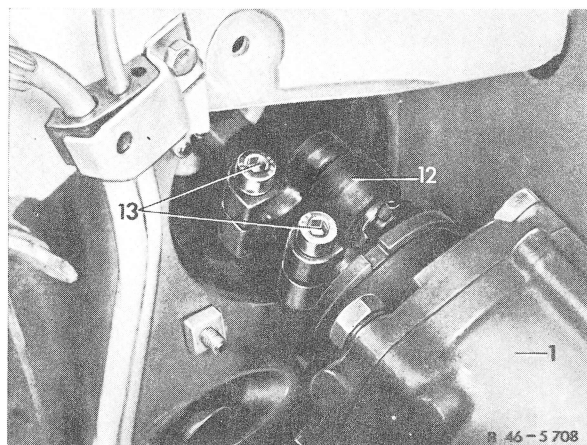

Fig. 1
1 Unscrew upper hexagon socket screw (13) from steering coupling (12) with a double joint spanner (Fig. 1).